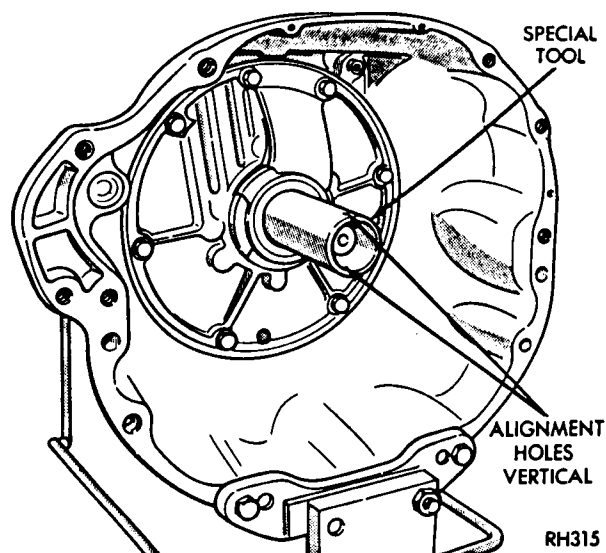

Fig. 51—Align Pump Inner Gear Lugs
(1) Rotate pump gears with Tool C-3756 (A-904T and A-999) or Tool C-3881 (A-727) until the two small holes in handle are vertical (Fig. 51).
(2) Carefully slide torque converter assembly over input shaft and reaction shaft. Make sure torque converter hub slots are also vertical and fully engage pump inner gear lugs.